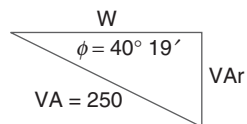

Fig. 34
21. Find W and V_{Ar} in Figure 34.